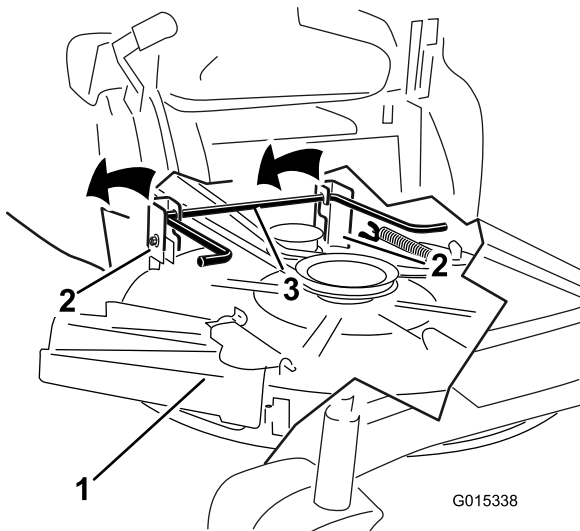

Figure 58
5. Lift the rear of the mower deck and guide the hanger brackets over the rear lift rod (Figure 58).
6. Lift the mower deck and hanger brackets clear of the rear lift rod and lower the mower carefully to the ground (Figure 58).